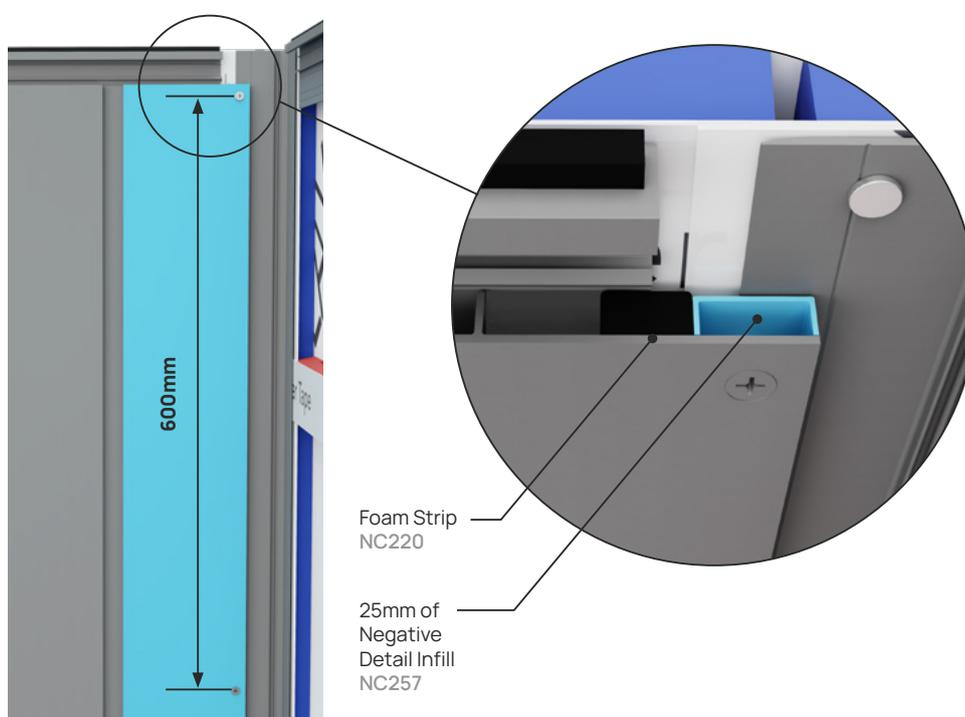

FIGURE 36. RIPPED BOARD FASTENING AND PACKER
5. To prevent the face of the board deflecting under compression when the screws are tightened, you may have to insert a 9mm packer if the countersunk fastenings are not close to a supporting negative feature. In Figure 36, a 25mm length of Negative Detail Filler (NC257) has been used as a packer. You can also rip down a batten to 9mm.